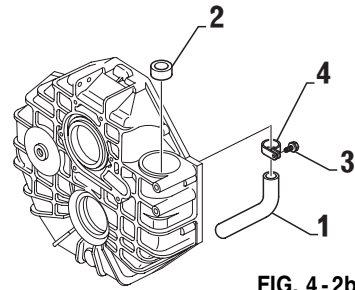

FIG. 4-2b
ZF 45 A - ZF 45-1 (Figs. 4-2b, 4-2c, 4-2d)**
- Position oil suction pipe (item 1, Fig. 4-2b) in the housing.
- Lightly tighten the screw (item 3, Fig. 4-2b).